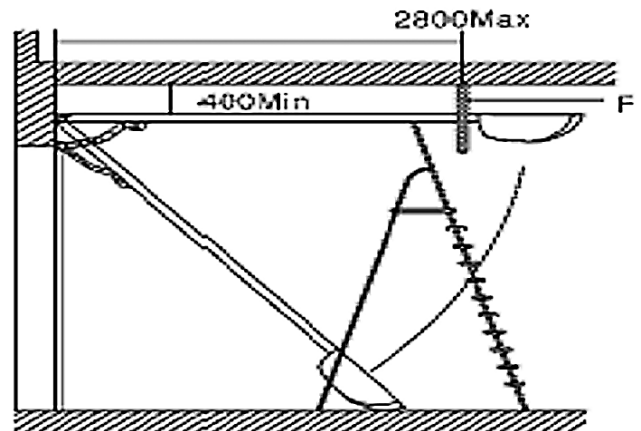

Fig. 7
- 2.7) Fix the Smart Lifter opener to the ceiling with appropriate fasteners (Fig.7). Cut off any fixing strap excess.